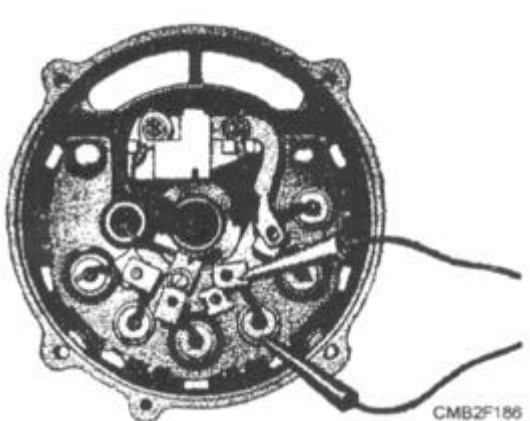

Figure 2-33.—Testing diodes with an ohmmeter.
- Connect one ohmmeter test lead to the diode lead and the other to the diode case (fig. 2-33). Note the reading. Then reverse the ohmmeter's leads to the diode and again note the reading. If both readings are very low or very high, the diode is defective. A good diode will give one low and one high reading.